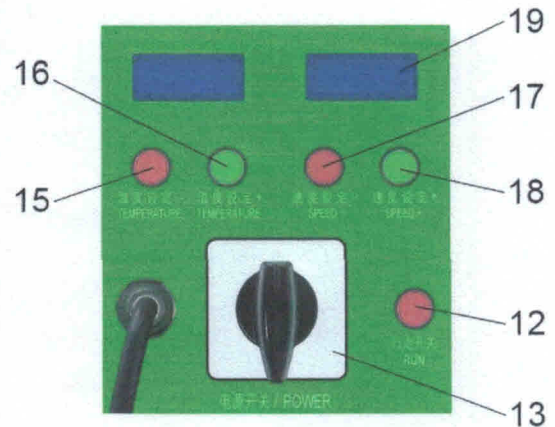

Figure 1
- ON/OFF switch (13) is used for open the main power of the welder
- Open ON/OFF switch (13), LCD display is shown as Figure 1, the hot air blower is under natural wind without heating.
If press the bottoms (15) and (16) at the same time, LCD display shows as Figure 1, the hot air blower is under natural wind without heating.
- When the welding nozzle is at the right position, press the moving switch (12) and the welder starts to move and weld. It will stop move if you press the moving switch again.